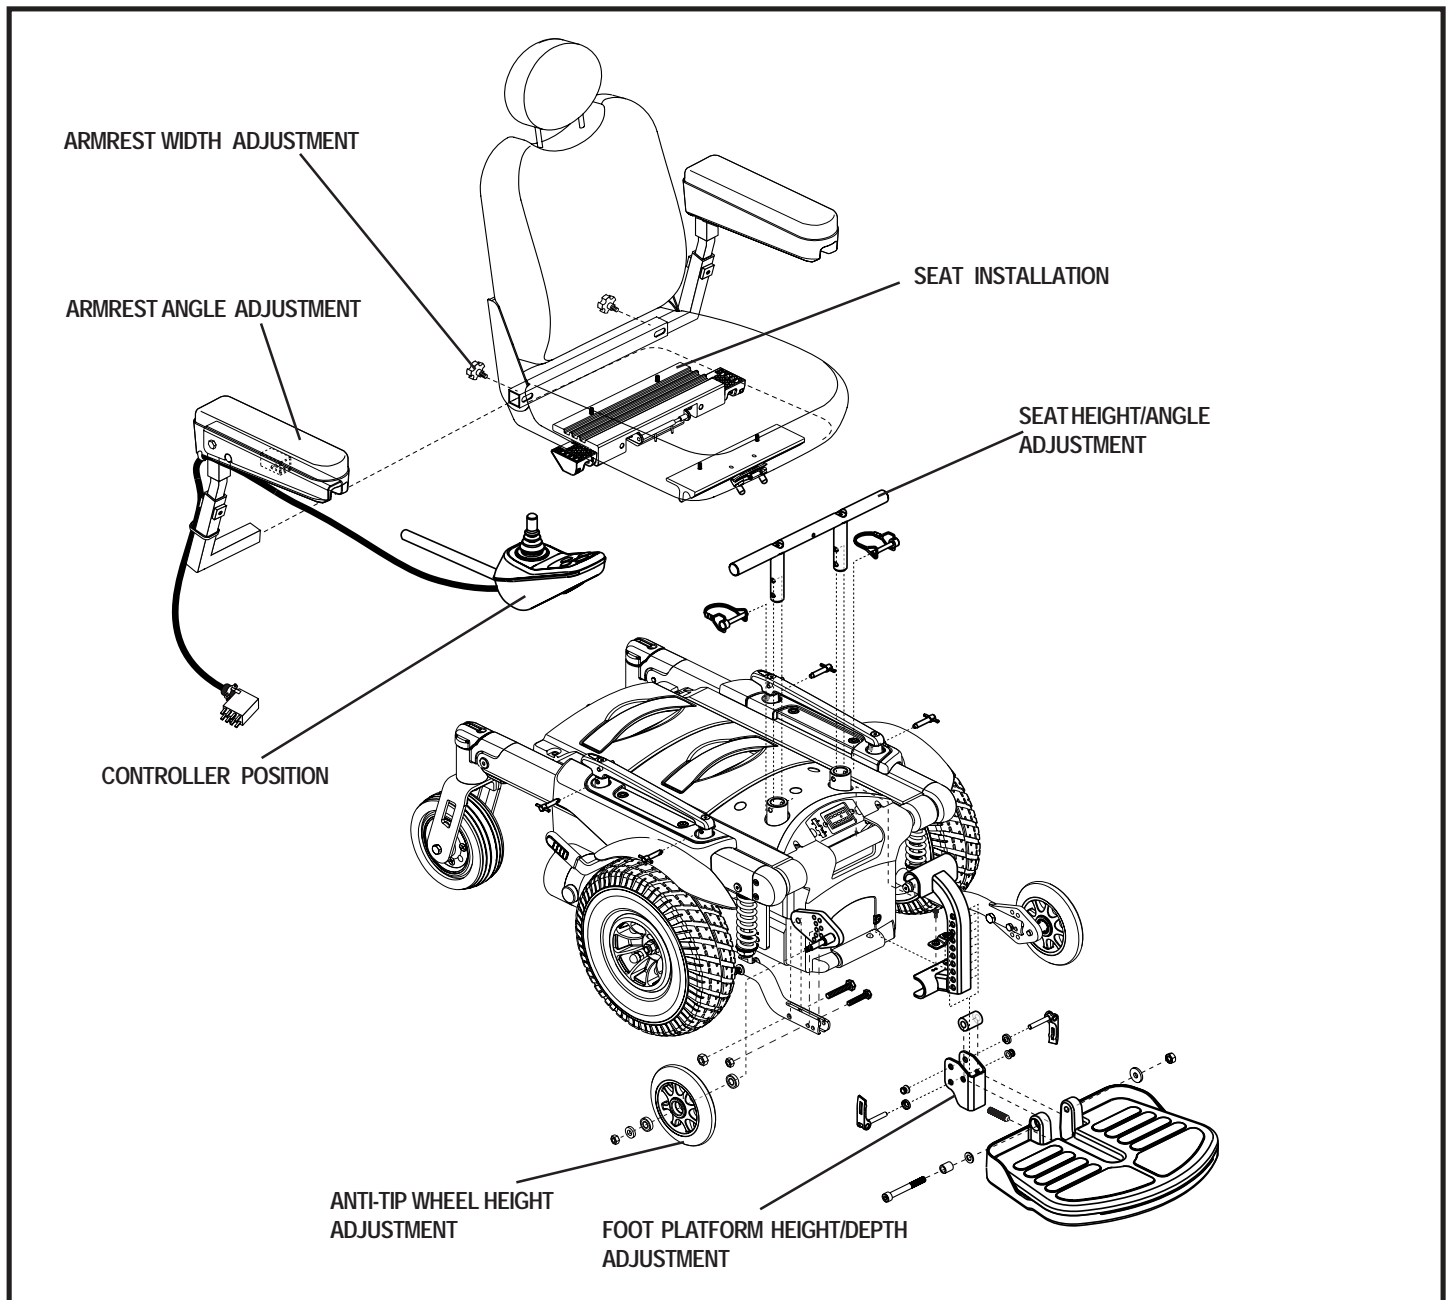

Figure 10. Jazzy 1107 Assembly View
Your power chair may require some assembly either before initial use or after transportation. It may also require disassembly to make some comfort adjustments. Figure 10 details those parts of the power chair that are designed to be disassembled and assembled by an end user or by a qualified carer before using the product or making comfort adjustments.
6. Install the controller into one of the armrests. See figure 10.